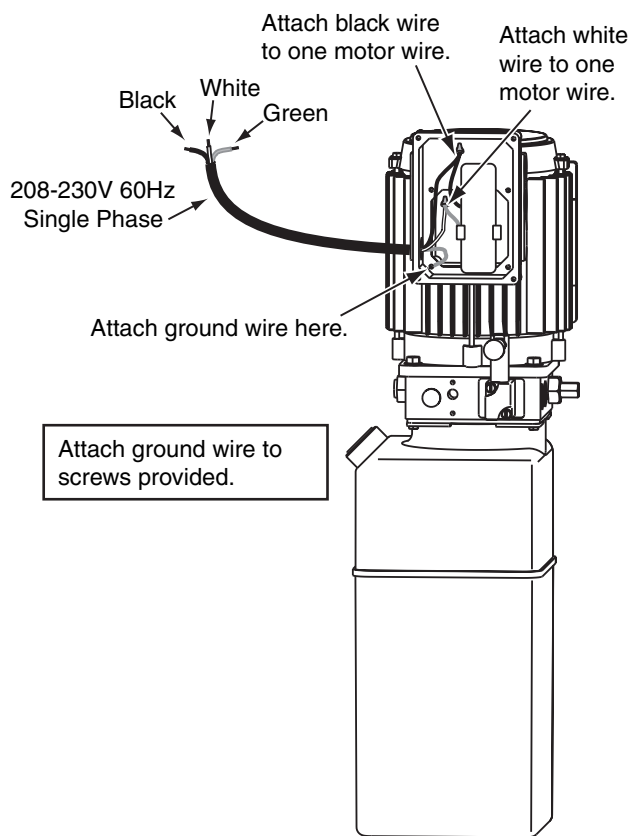
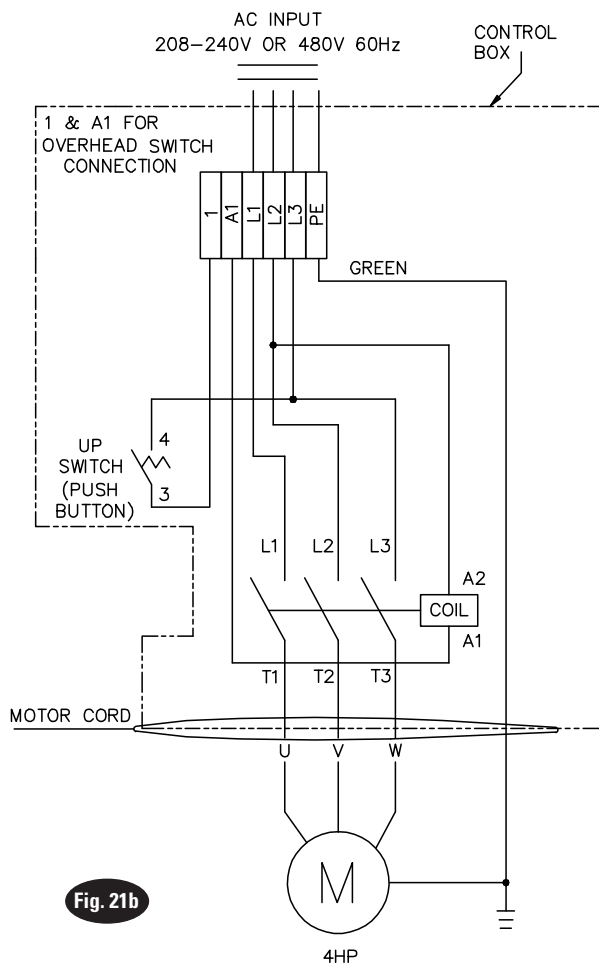

Fig. 20
Fig. 21b
- 11. **Electrical:** Have a certified electrician run appropriate power supply to motor, Fig. 20, Fig. 21, & Fig. 21b. Size wire for 20 amp circuit. See Motor Operating Data Table.